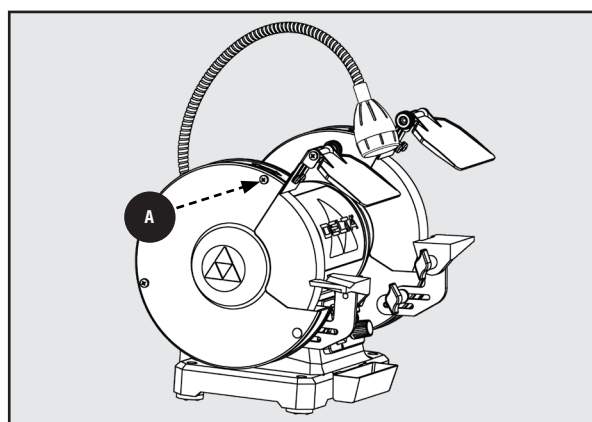

Figure 4
1. Remove the two screws **A** securing the outer face of the wheel guard to the tool frame. You will also need to remove the long carriage bolt that secures the Tool Rest Support by removing the lower large locking knob. See Figure 4.
4. Re-attach and secure the outer face of the wheel guard to the tool frame using the screws **A** by reversing Step 1. See Figure 4.
For steps 1-4, refer to Figures 4 & 5 on page 11: